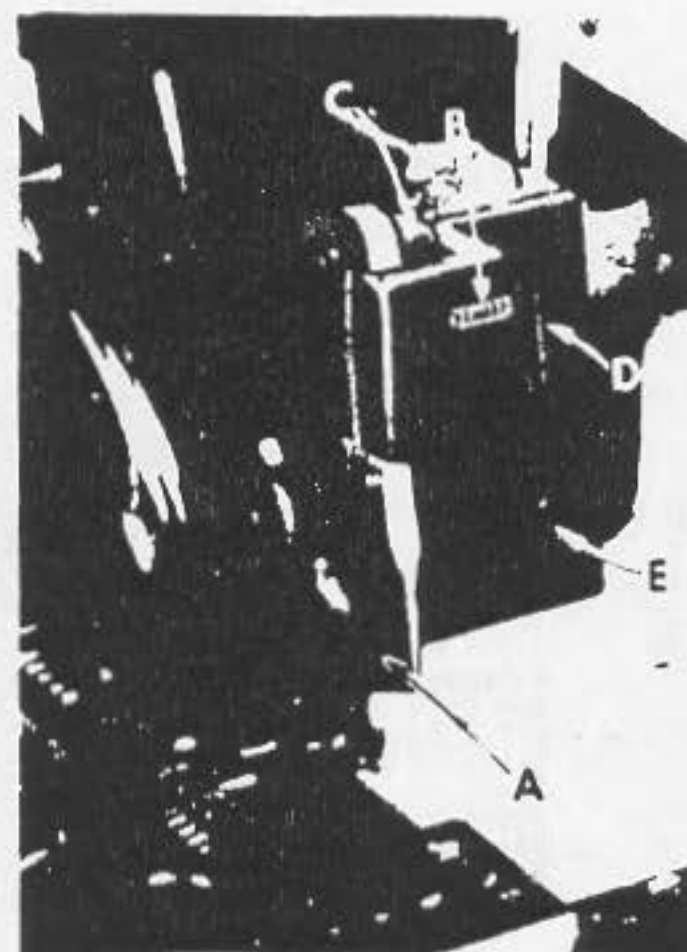

Fig. 12
Replace upper knife assembly. Clamp upper knife (A, Fig. 12) in position, setting allen screw (B) to hold clamp (C) against the upper knife. At bottom of its stroke, front cutting edge of upper knife should extend not less than $\frac{1}{64}$ inch below cutting edge of the lower knife.